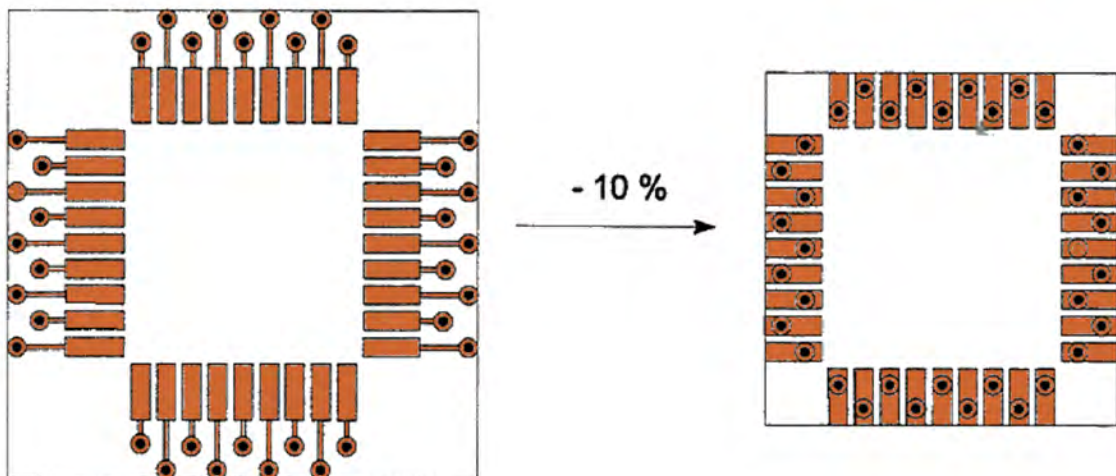

Figure 1: Via-in-pad versus dog bone design.
- Higher interconnect density (e.g., via-in-pad vs. dog bone designs, Figure 1)